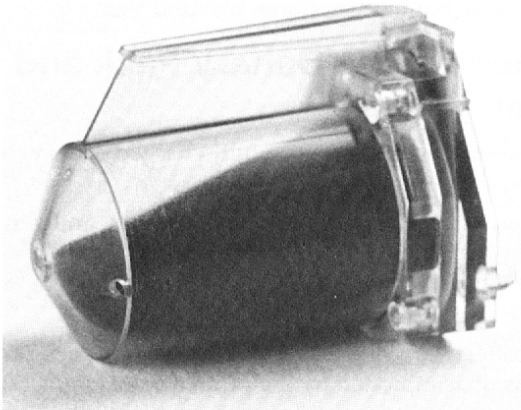
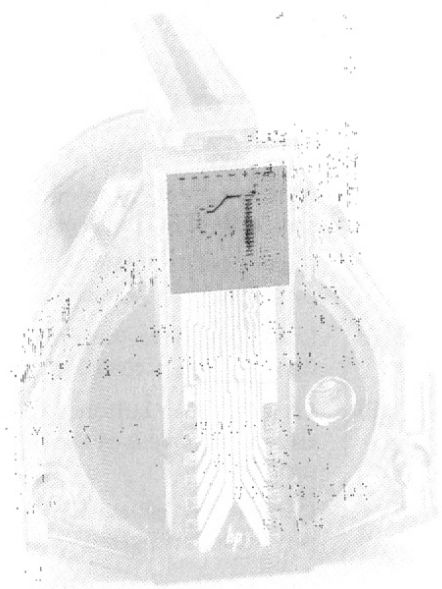

Figure 4-1 Empty Cartridge
Figure 4-2 Wipe Area
6. Print quality is poor.	<ul style="list-style-type: none"> • Check that there is sufficient ink in the cartridge by viewing the bladder. If the bladder is collapsed, replace the cartridge. See Figure 4-1. • Check that the paper used is an ink jet paper. • Gently wipe the face of the print head using a tissue to remove any accumulated dust. See Figure 4-2. If the print head cartridge has not been used for a prolonged period, moisten the tissue with water before wiping.
7. Dot rows are missing.	<ul style="list-style-type: none"> • Gently wipe the face of the print head using a tissue to remove any accumulated dust. See Figure 4-2. If the print head cartridge has not been used for a prolonged period, moisten the tissue with water before wiping. • Lightly wipe the electrical connector of the print head carriage using a cotton swab dipped in alcohol. • If the problem continues, replace the print head cartridge.
8. Carriage moves but printer does not print.	<ul style="list-style-type: none"> • Check that there is sufficient ink in the cartridge by viewing the bladder. If the bladder is collapsed, replace the cartridge. See Figure 4-1. • Gently wipe the face of the print head using a tissue to remove any accumulated dust. See Figure 4-2. If the print head cartridge has not been used for a prolonged period, moisten the tissue with water before wiping. • Lightly wipe the electrical connector of the print head carriage using a cotton swab dipped in alcohol. • If the problem continues, replace the print head cartridge.